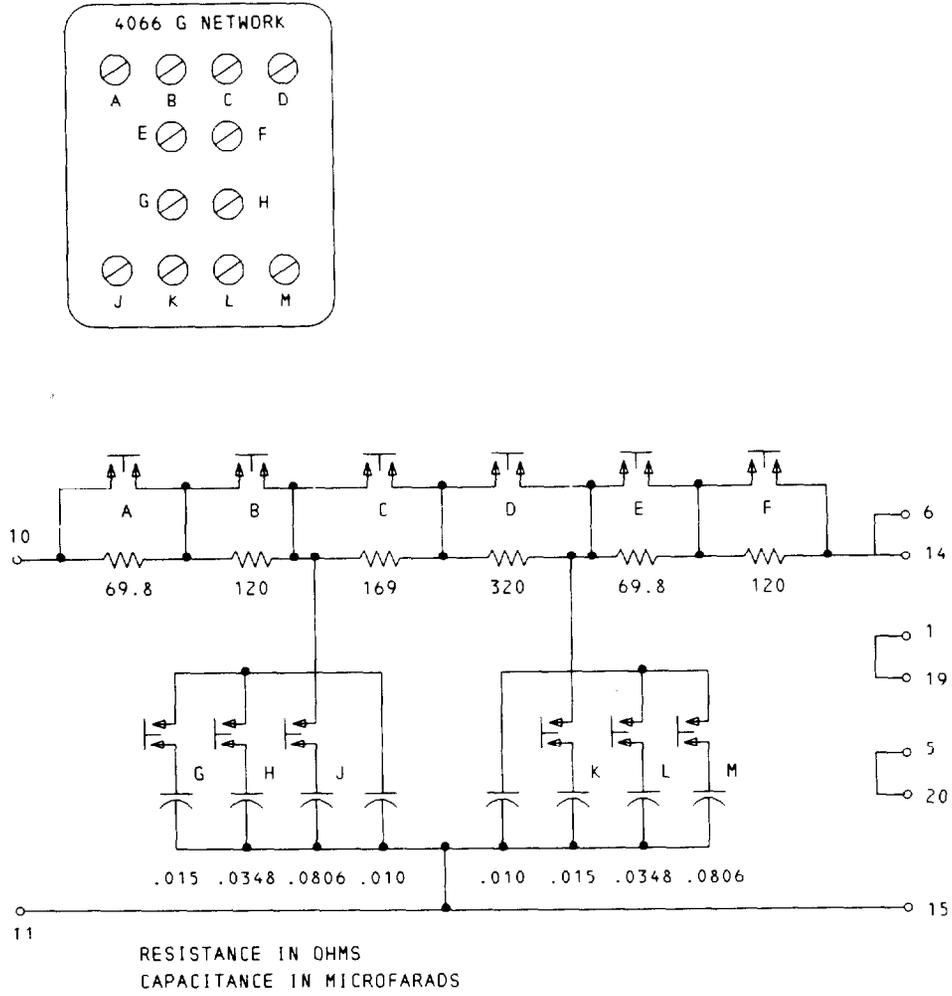

Fig. 1—Faceplate and Schematic Diagram of 4066G Network
2.01 The faceplate and circuit schematic of the 4066G network are shown in Fig. 1. Screw switches labeled A through F are used to adjust the series resistance of the circuit. Screw switches labeled G, H, J, K, L, and M are used to adjust the shunt capacitance of the network.